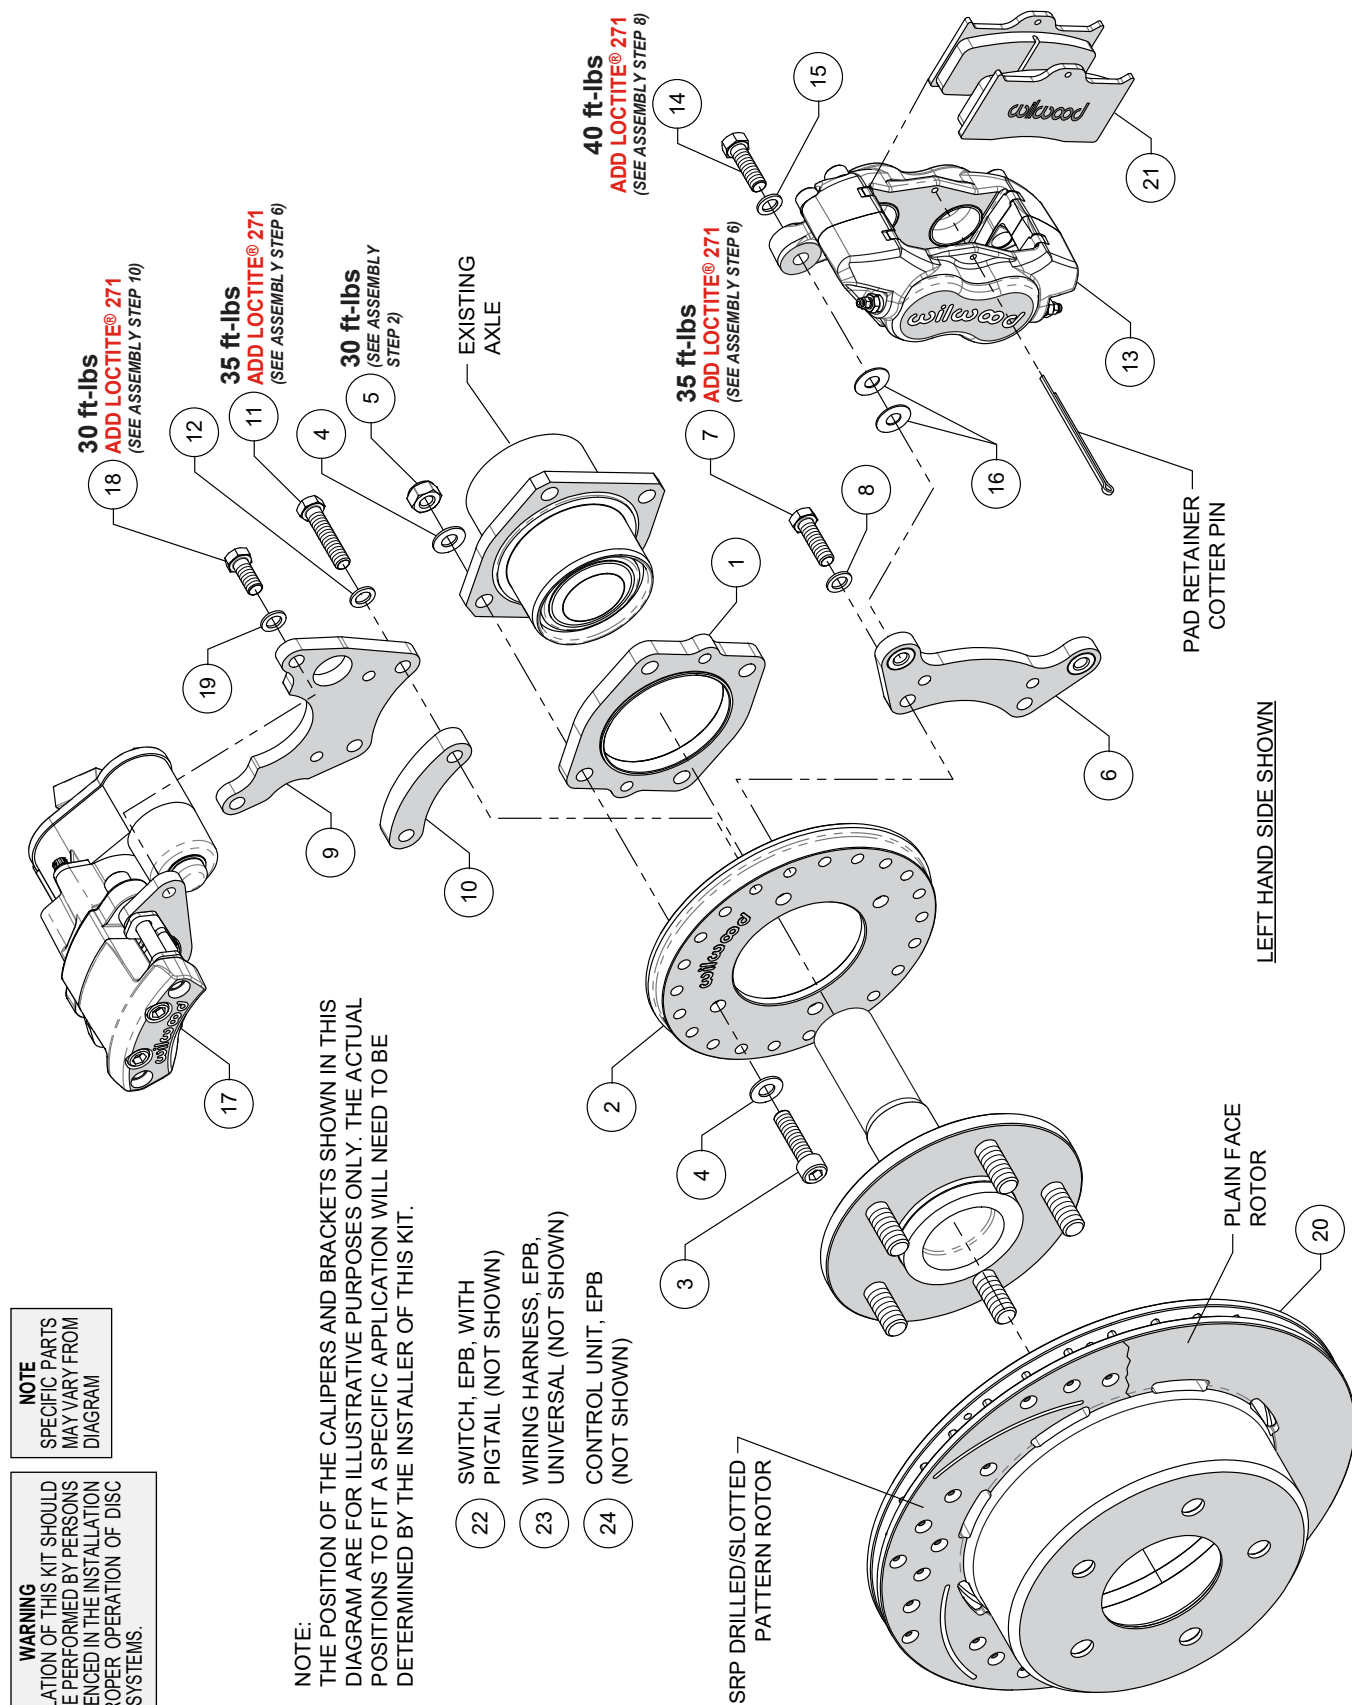

Figure 1. Typical Installation Configuration
NOTE: Numbers in parenthesis refer to the parts list and Figure 1 on the preceding pages.
STEP 1 Slide the backing plate spacer (1) onto the axle housing as shown in Figure 1 and Photo 1. **NOTE:** Ensure the spacer fits flush against the axle flange.
STEP 2 Orient the backing plate (2) as shown in Figure 1 and Photo 2 and mount it to the axle housing flange using bolts (3), washers (4), and lock nuts (5). Ensure the backing plate fits flush against the spacer (1). Torque lock nuts (5) to value shown in Figure 1. Reinstall the axle into the axle housing.
STEP 3 Start by determining the best location for the service caliper (13). This caliper is usually mounted in the 3:00 or 9:00 o'clock position, but may be rotated up or down approximately 45 degrees and still allow for proper bleeding, Photo 3. Orient the service caliper bracket (6) as shown in Figure 1 and Photo 4, and install to the backing plate (2) in the desired location using bolts (7) and washers (8). Temporarily tighten bolts. Next, mount the service caliper to the bracket using bolts (14) and washers (15). Temporarily tighten bolts. Check that the caliper (including inlet fitting and hose) has sufficient clearance to all surrounding components through the full suspension travel. Relocate the caliper/bracket on the backing plate as needed to ensure proper clearance is achieved.
STEP 4 Determine the best location for the EPB caliper (17). **NOTE:** The EPB caliper motor extends farther inboard than the service caliper and therefore needs additional consideration when determining a mounting location with sufficient clearance. In the example application shown in Photo 5, the EPB caliper has
STEP 5 Orient the EPB caliper bracket (9) as shown in Figure 1. Install to the backing plate (2) in the desired location using bolts (11), washers (12), and spacer (10), Figure 1 and Photos 6 and 7. Temporarily tighten bolts. **NOTE: The EPB bracket is reversible. In one direction the bracket will position the EPB caliper closer to the service caliper, and vice versa if reversing the bracket.** Next, mount the EPB caliper (17) to the bracket (9) using bolts (18) and washers (19). Temporarily tighten bolts. **NOTE: EPB calipers are left and right handed, however they can be used on either side of the vehicle to best suit your specific application.** Check that the EPB caliper (including wiring harness connector) has sufficient clearance to all surrounding components through the full suspension travel. Relocate the EPB caliper/bracket on the backing plate (2) as needed to ensure proper clearance is achieved.
STEP 6 Once the caliper positions have been determined, remove both the service (13) and EPB (17) calipers, leaving both brackets in place on the backing plate. For both brackets, remove the bolts (7 and 11) one at a time, apply red *Loctite*® 271 to the threads, and torque to value shown in Figure 1.
STEP 7 Slide the rotor (20) onto the axle flange. **NOTE: The rotor must fit flush against the axle flange or excessive rotor run out may result.** Install three lug nuts (finger tight) to keep the rotor in place while continuing with the installation, Photo 8.